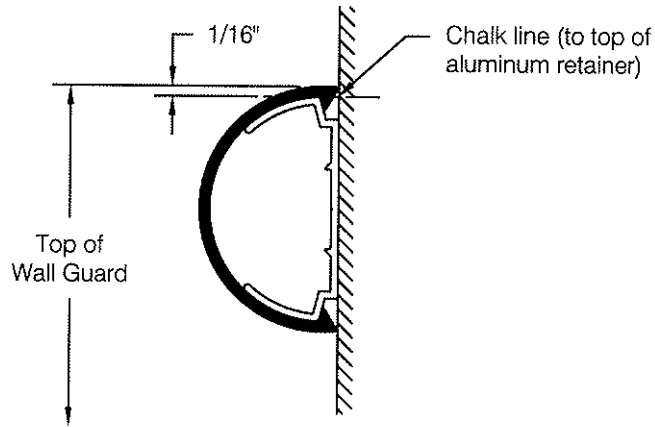

fig 1
**Step 1** Determine top of bumper guard and snap a chalk line 1/8 inch below to locate top of retainer, see **fig. 1**.